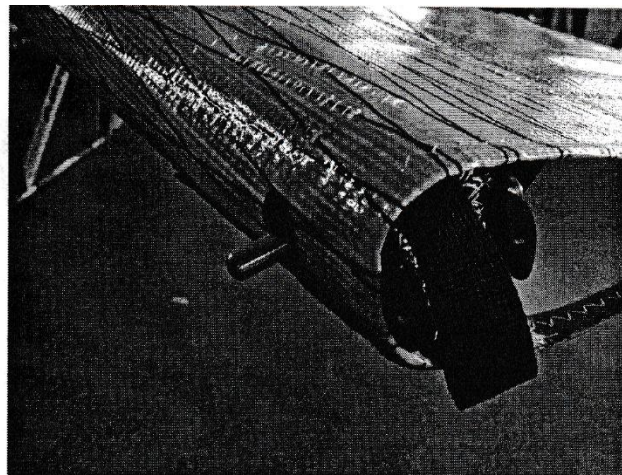

Figure 16
21. Take the winglets and find the winglet fixing rods packed inside. Install the winglets fixing rods to the leading-edges #3 (fig. 16).